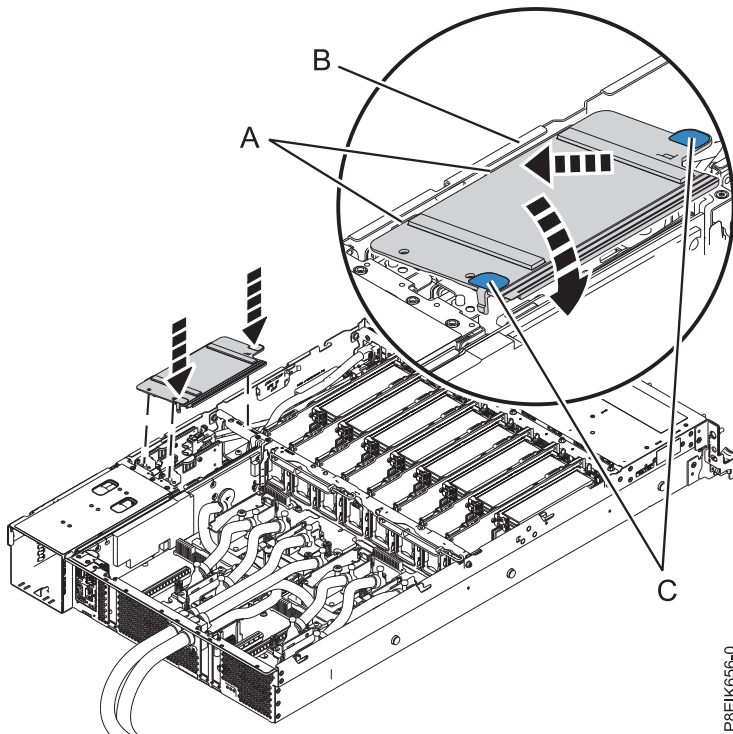

Figure 141. Installing the power riser air baffle
32. Install the power riser air baffle. Ensure that the holes in the baffle align with the pins on the system. Using the blue tabs (C), insert the edge (A) of the baffle into the side of the system (B). Then snap the baffle down into place. See Figure 141.